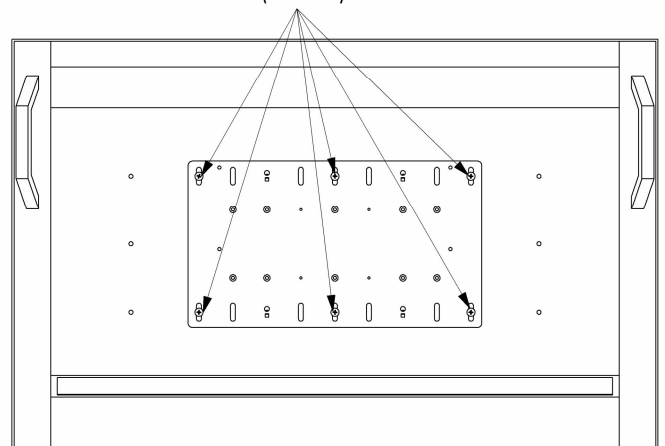

Figure 12. Display with 400mm x 200mm Hole Pattern
1. Select six Phillips head M6 screws (110) from Bag B and six spacers (140) from Bag C.
2. Attach the interface bracket (20) using the hole-pattern on the back of your display as shown in Figure 12.